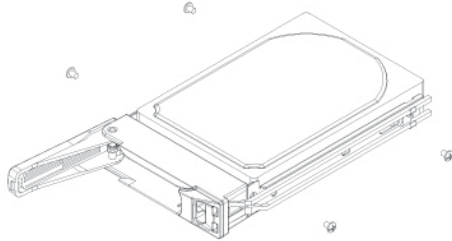

Fig. 3
3. Use the mounting screws to securely attach the HDD to the mounting frame (fig. 3).